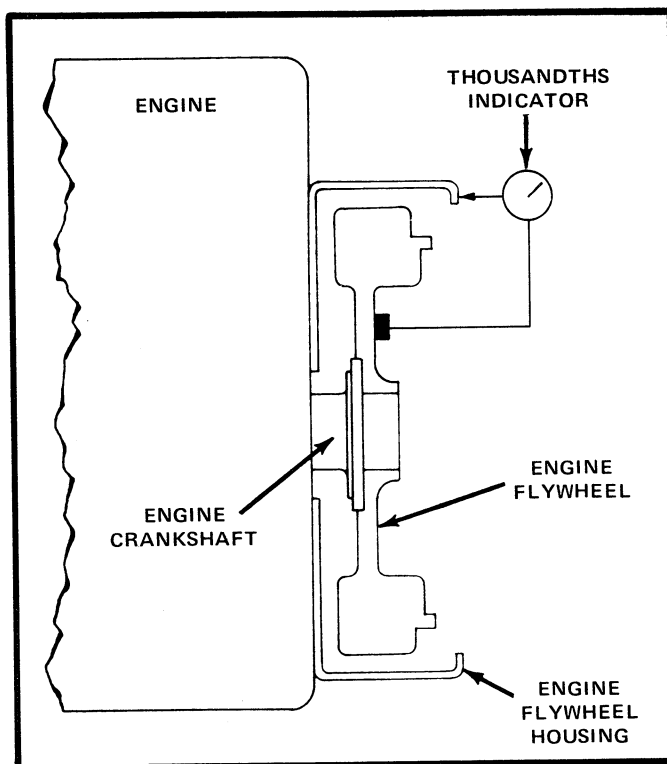

Figure 9-18. Checking the Face of the Engine Flywheel Housing.
1. Bolt a thousandths increment dial indicator or gauge to the engine flywheel so that the indicator is perpendicular to the face of the engine flywheel housing, and the indicator stem is riding on the face of the flange. See Figure 9-18.